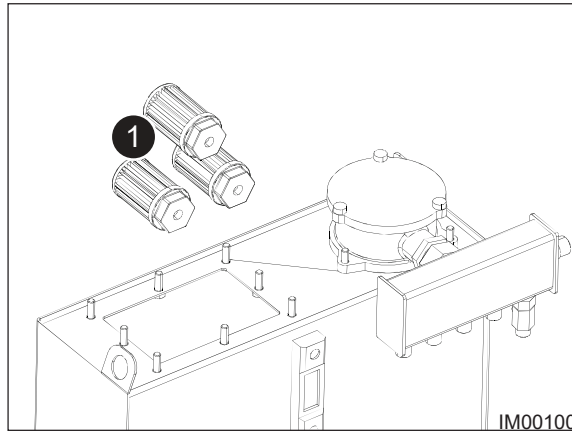

Fig: 11.39 - Suction Strainers
9. Replace the suction strainers (Items 1, Fig: 11.39). Rotate each filter counter-clockwise and replace with new filters of same specification.